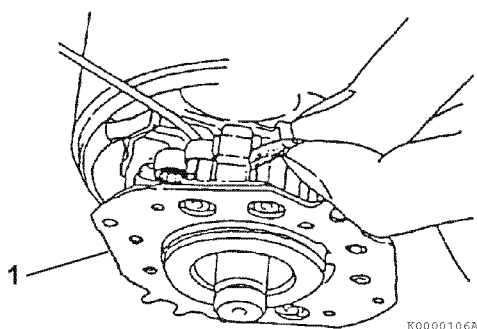

Figure 11-31
- Position the brush springs in brush holders (**Figure 11-31**). Reinstall the brushes in the brush holders. Reversing the brushes will cause the starter motor to turn backwards.